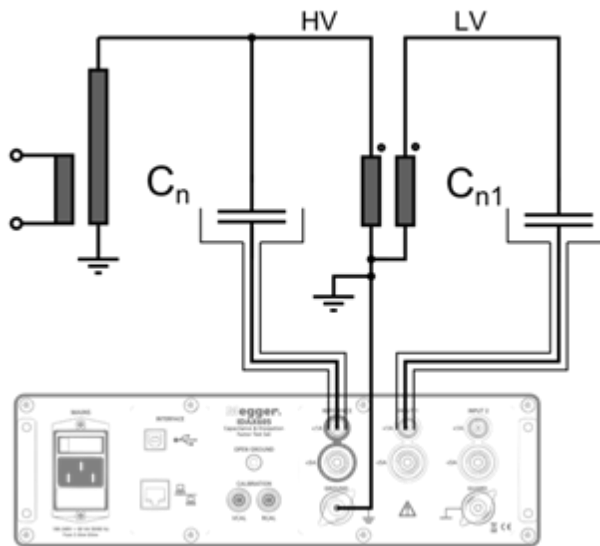

Figure 2. Ratio measurement setup
- Connect the ratio transformer as in Figure 2.